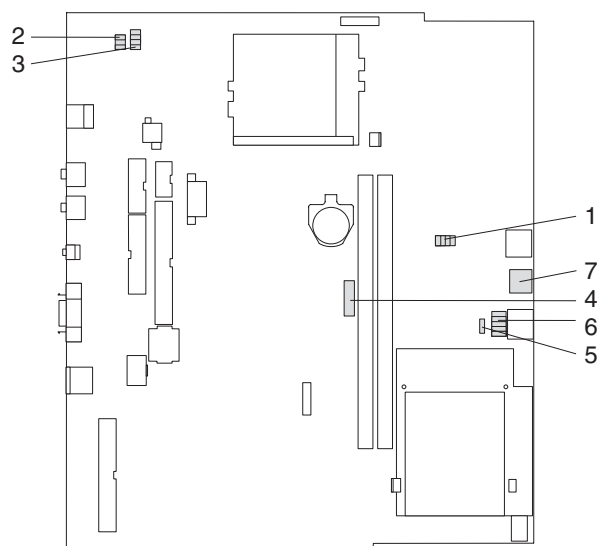

Figure 76. System board jumper locations
- b. Leave the service-level update jumpers in the default positions. See Figure 76 on page 93 and “System board jumper settings” on page 94.
Figure 76 shows the system-board jumper locations. See the following topics for jumper descriptions and information about jumper settings.